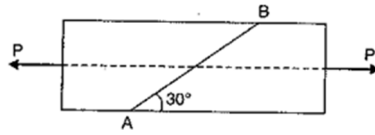

Figure Q1(d)
- d) Two wooden pieces $10\text{cm} \times 10\text{cm}$ in cross-section are glued together along line AB as shown in figure Q1(d). What maximum axial pull force P can be applied if the allowable shearing stress along AD is 1.2 N/mm^2 ? (4 marks)
- e) A rectangular column of width 200 mm and of thickness 150 mm carries a point load of 240 kN at an eccentricity of 10 mm as shown in Figure Q1(e).